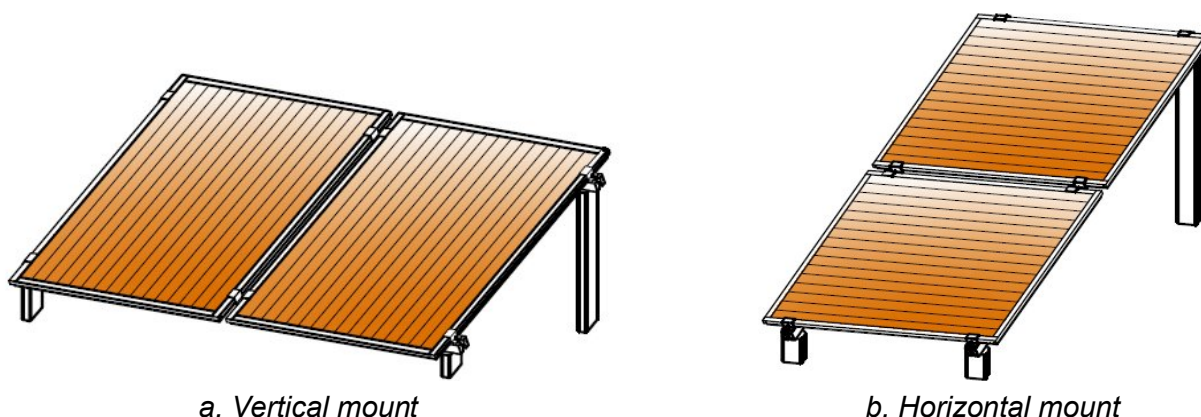

Fig. 1 PV Module mounting configuration
- The PV module can either be installed vertical or horizontal (Fig. 1), but must conform the following conditions. Otherwise it will void the warranty.